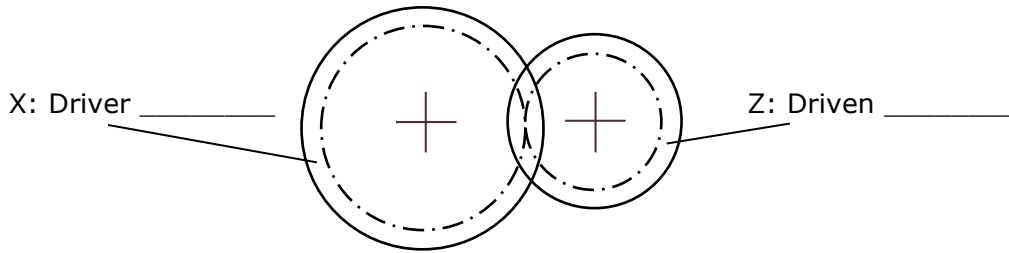

Figure 5
11) The following diagram, Figure 5, shows two gears working together. One Gear has 48 teeth while the other has half this amount.
- a) Label **both** gears with the correct number of teeth: (2)
- b) Complete the gear mechanism by drawing the direction of rotation of the driver gear in clockwise, and that of the driven gear in its correct resulting direction. Draw the answer on Figure 5. (2)
- c) Underline which of the following ratios best represents the gear ratio of the gear system shown in Figure 5. (1)